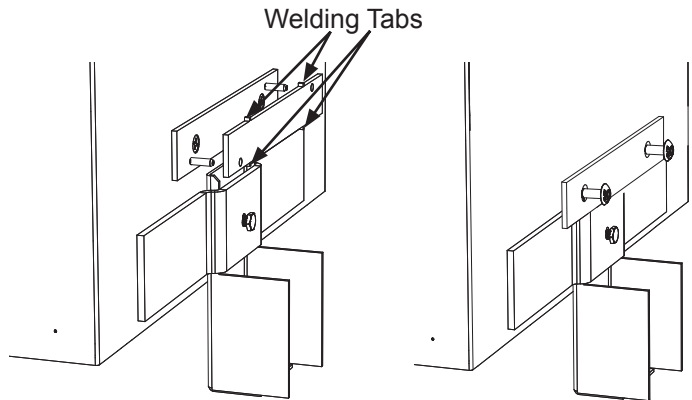

Fig. 3, Breakaway Bolt Installation (Left) Security Screw Installation (Right)
- For the breakaway bolt installation, install the two phillips head (3/8-16 x 1") screws through the backing plate on the outside of the enclosure. Fix the backing plate cover over the backing plate and weld it to the rear of the enclosure (See Fig. 3). The weld must reach the tabs on the plate. Welding the center of the plate is optional.
- For the security screw installation, install the two security screws through the backing plate on the outside of the enclosure (See Fig. 3).